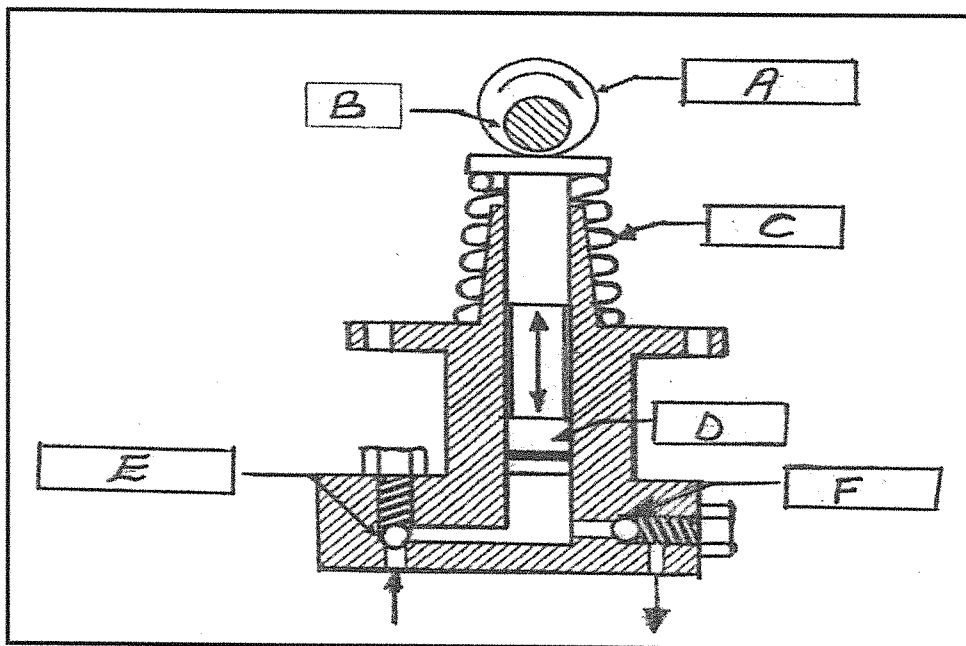

FIGURE 3
- 3.4 FIGURE 3 below, shows the section plunger-type oil pump. Name the parts by writing the answer next to the letter (A–F) in the ANSWER BOOK. (6)